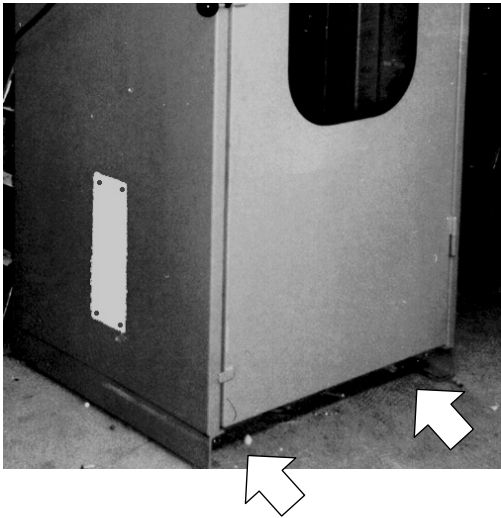

Fig. 5-1 Guiding collecting basin
- ⇒ Put the collecting basin into the guiding under the door. (Fig. 5-1)